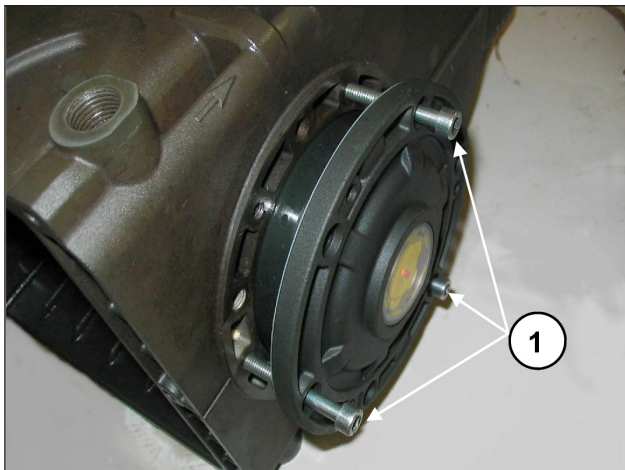
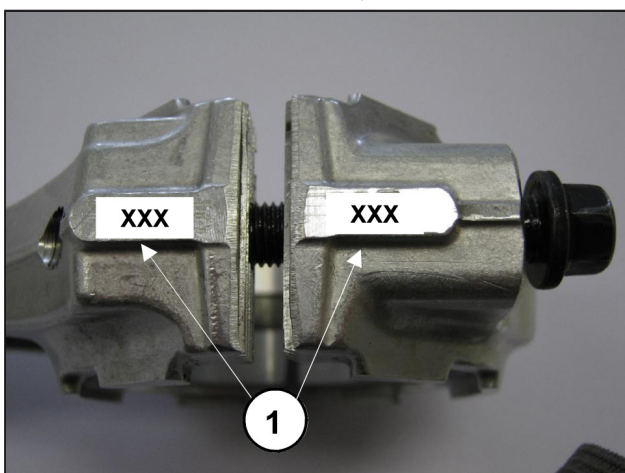

Fig. 8
Fig. 9
To facilitate filling of the first section and relative fitting of the covers on the casing, it is recommended to use 3 partially-threaded M6 x 40 screws, (Fig. 8, pos. ①) to then complete the operation with the screws supplied (M6x18).
- Couple the con-rod caps to their shanks, referring to the numbering (Fig. 9, pos. ①).
After having removed the side covers as indicated in par. 2.1.1, remove the outer ring nut of the bearings from the relative covers and the inner ring nut with the remaining part of the bearing from the two ends of the shaft by means of a normal "pin punch" or a similar tool as indicated in Fig. 8 and Fig. 9.